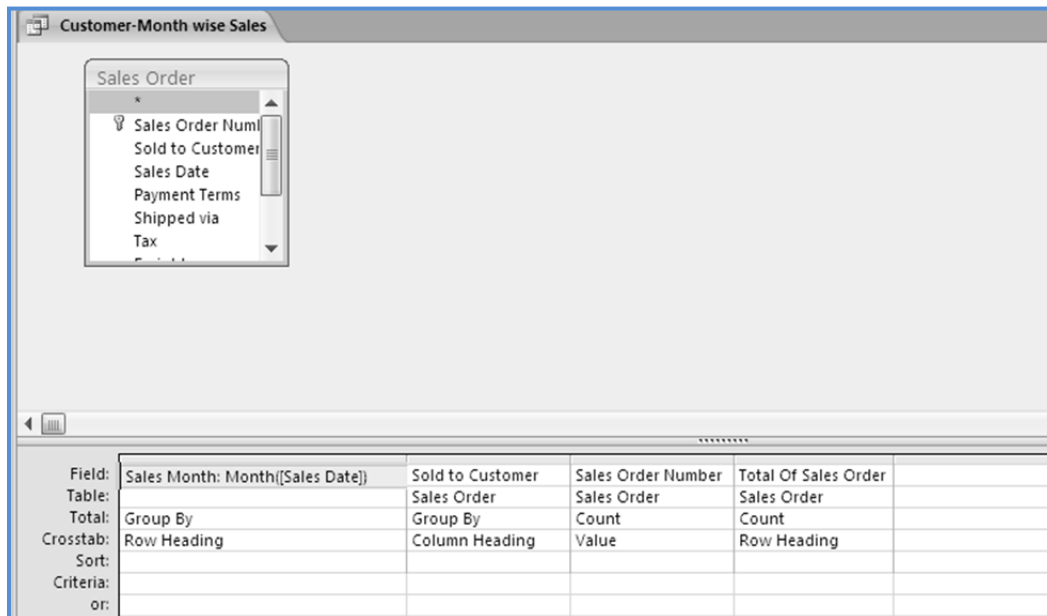

Fig. 1.2.47: Change the expression of field Sales Date
2. Click on field *Sales Date* and write the expression *Sales Month: Month ([Sales Date])* in **Field** tab as shown in Fig. 1.2.47.